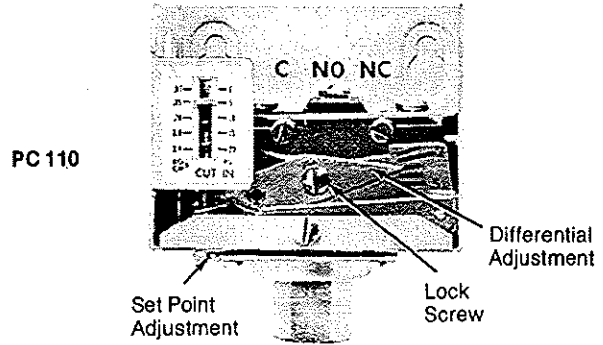

Figure 5
4. Remove device cover and make wiring connections to the switch terminals. Refer to Figures 5 thru 8 for terminal coding.
PC-151 is factory set and no field adjustments can be made. PC-110 and PC-141: The adjustment of the set-point screw (Figures 5 and 7) establishes the control operating point on a pressure increase when used as a N.C. switch, or on a pressure decrease when used as a N.O. switch, and is indicated by the pointer of the graduated scale.
1. PC-110: Refer to Figure 5. Turn the adjuster with a screwdriver to move the indicator to the required setting on the scale. To change the differential from the 2 psi factory setting, loosen the lock screw and set the pointer at the required differential. Secure the lock screw.